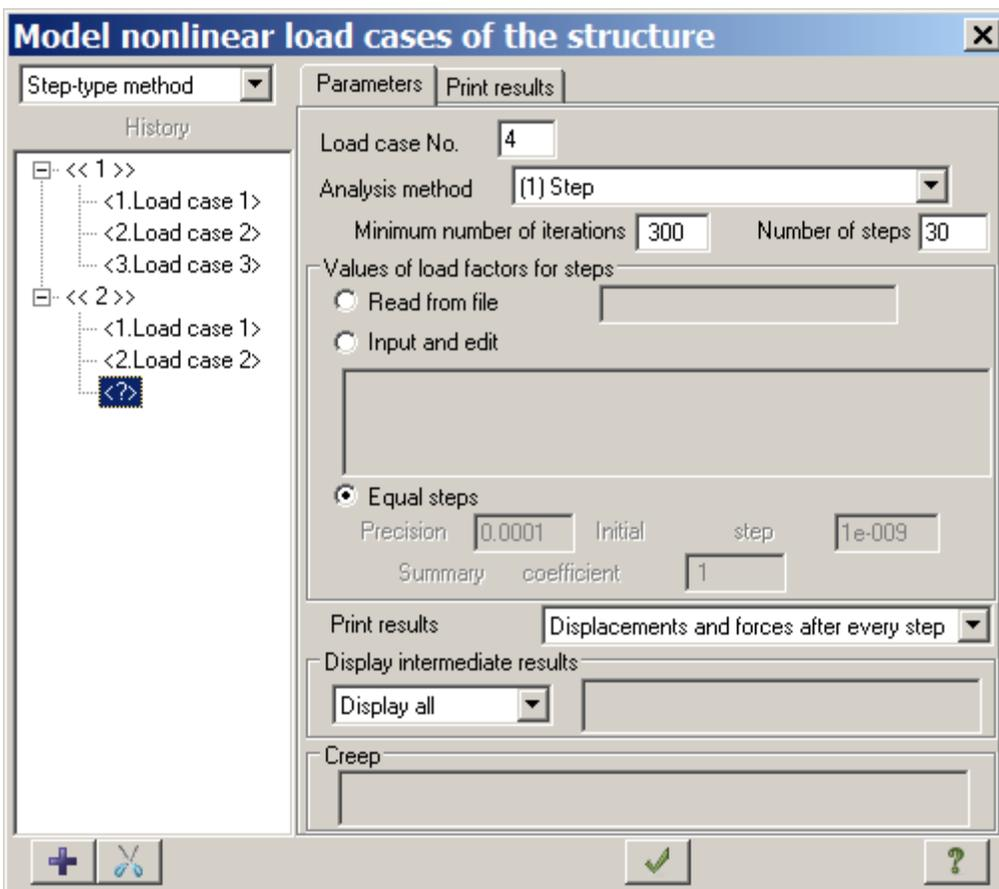

Figure 7.23 **Model nonlinear load cases of structure** dialog box
- ⇒ In the **Model nonlinear load cases of structure** dialog box (see Figure 7.23), under **History**, select the first history of loadings and click the **Add** button .
- select **Step (1)** in the **Analysis method** list box;